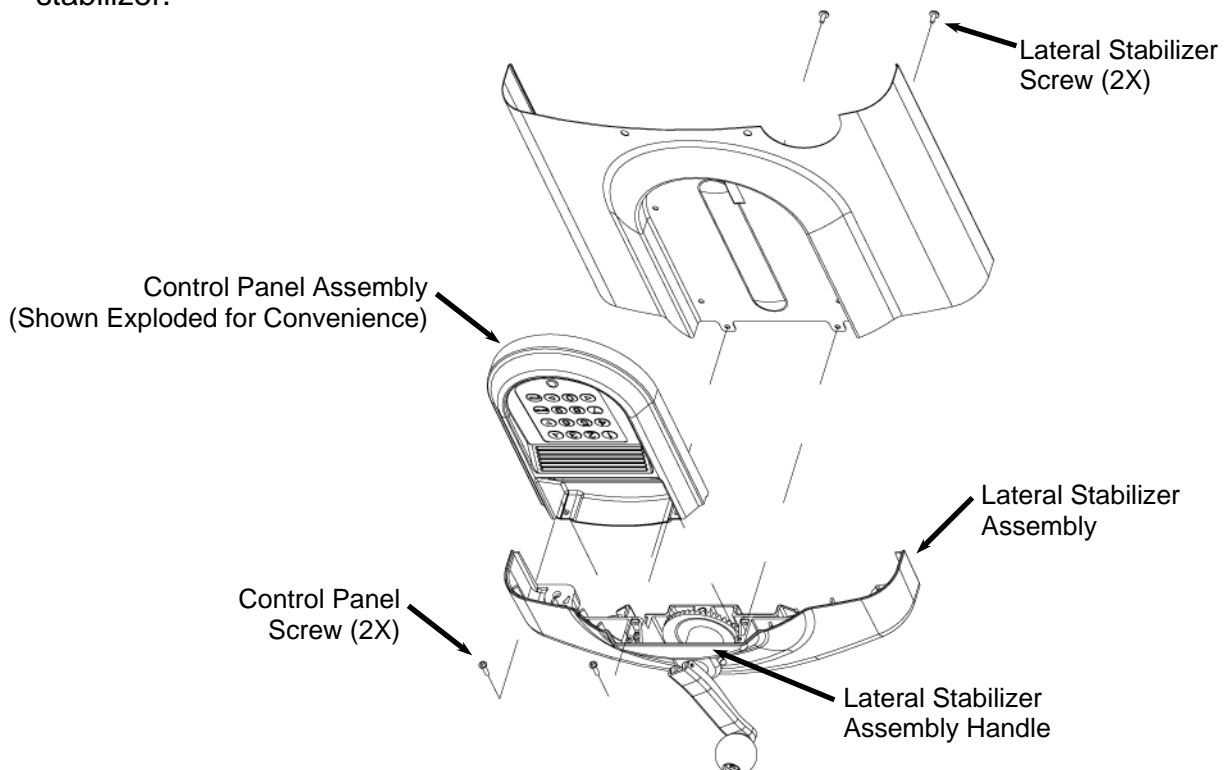

FIGURE 5: REMOVING THE LEFT LATERAL STABILIZER ASSEMBLY
- 7. Remove the left lateral stabilizer assembly.** Remove the two Phillips head screws that hold the top of the control panel to the lateral stabilizer handle with the screwdriver (see Figure 5). These screws are oriented vertically and are hard to see as they are under the handle. Remove the two screws from the back side of the metal side panel that secure the lateral stabilizer to the side panel. Lift off the lateral stabilizer.